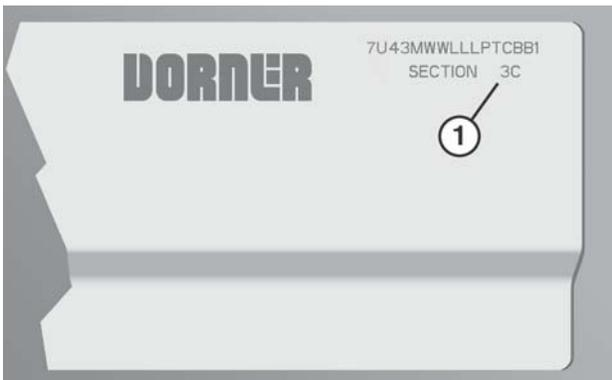

Figure 5
1. Locate the section number sequence etched on each section of frame (**Figure 5, item 1**)